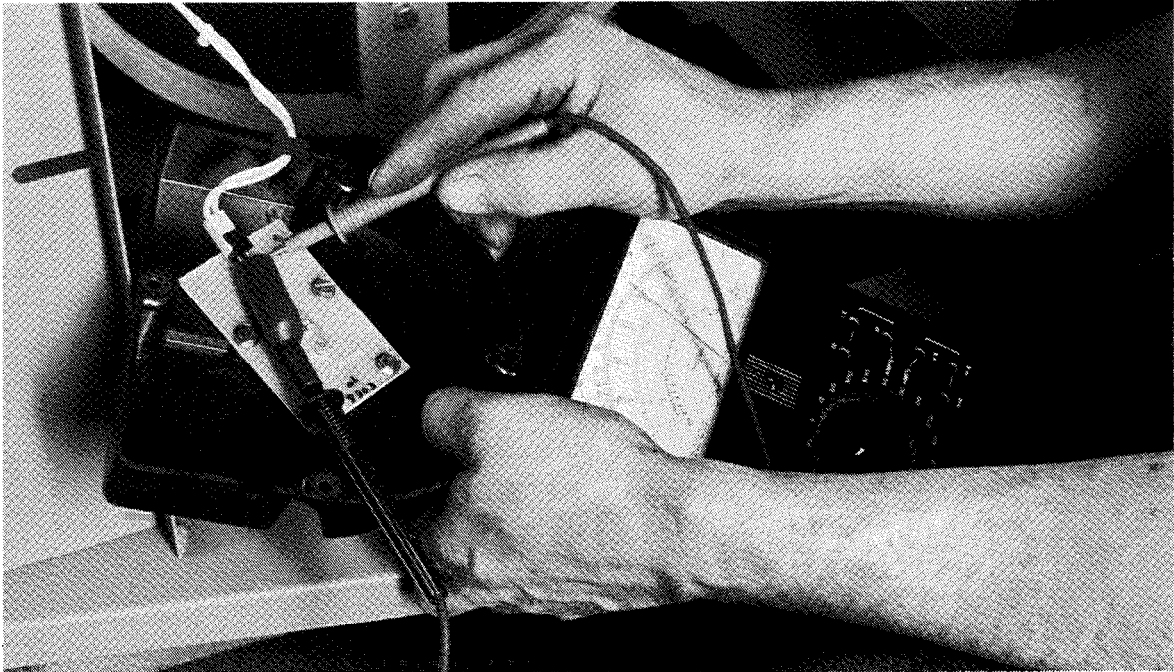

Figure 4-5. Checking LED Board
4. With the generator set running, approximately 1-2 volts DC should be observed at 3B (+) and 5B (-) at the LED board (see Figure 4-5). Shine flashlight on photo transistor. DC voltage reading should drop, showing the AVR is functioning properly. If voltages are not observed, refer to the AVR test.